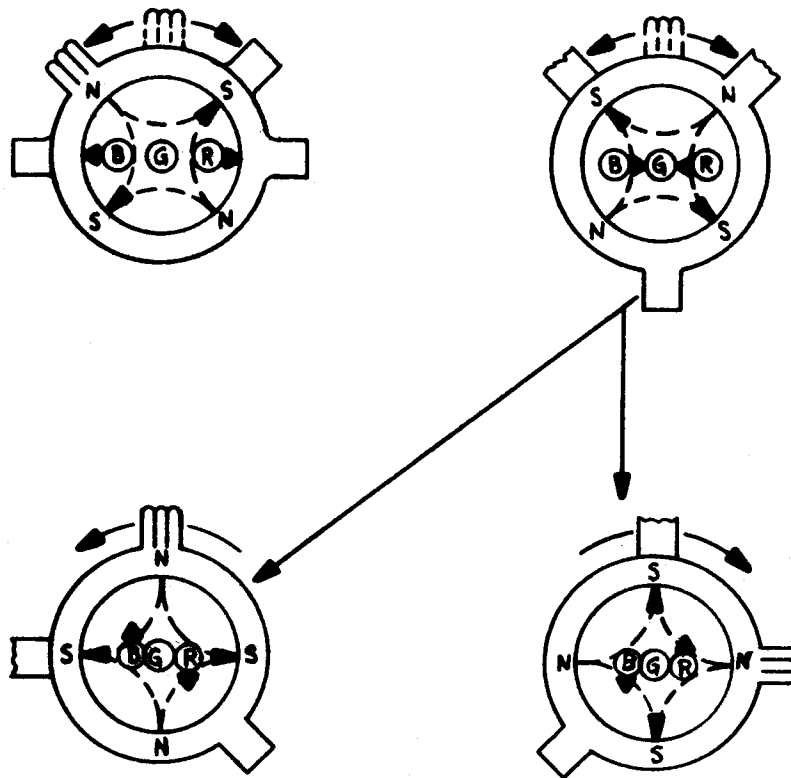

Figure 5-1, 4-Pole Convergence Magnets
2. A pair of 4-pole convergence magnets are provided and should be adjusted to converge the red and blue beams. When the Pole is opened to the left and right (45 degrees symmetrically), the magnetic field is maximum. The red and blue beams will be moved to the left and right oppositely (See Figure 5-1). Adjusting the angle between the tabs will adjust the convergence of the red and blue vertical lines. When both the 4-pole convergence magnet tabs are rotated as a pair, convergence of the red and blue horizontal lines will be adjusted.